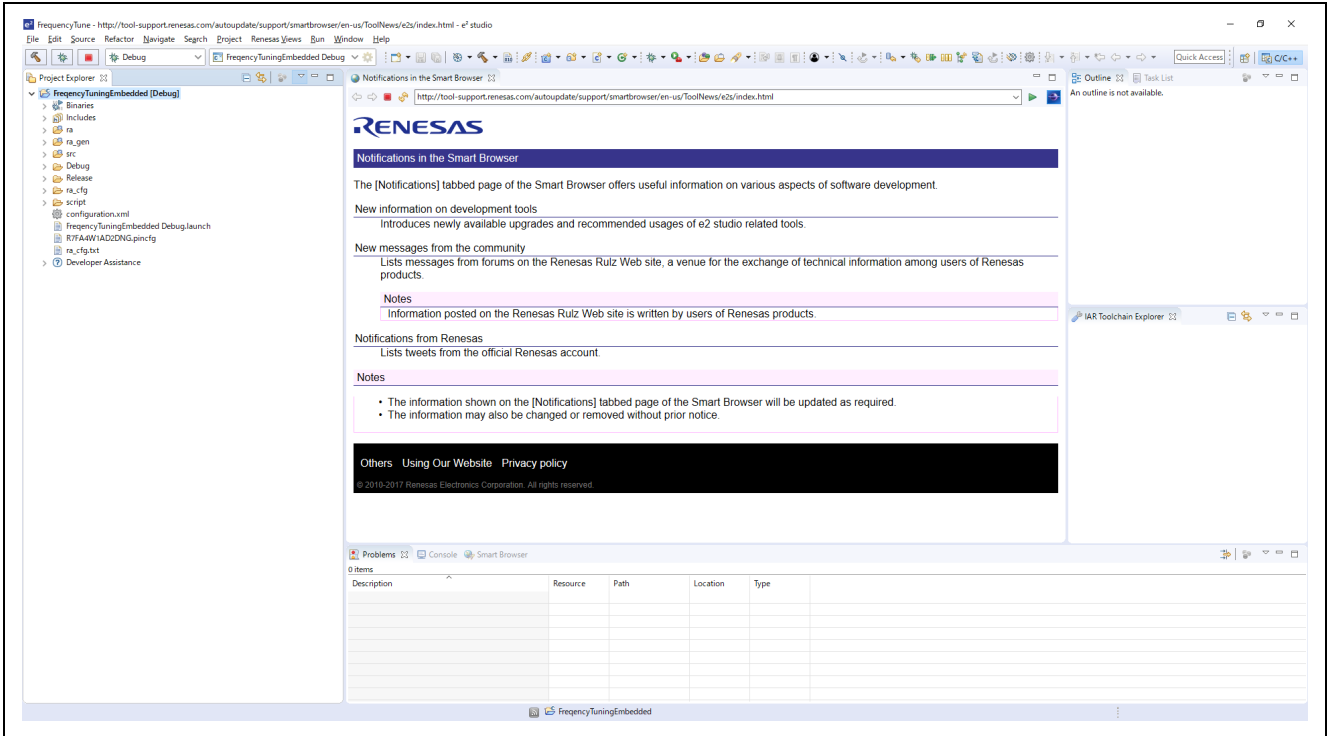

Figure 6-6. e2studio after import project
8. Click [Finish] and then project for frequency tuning will load into e2studio (Figure 6-6)